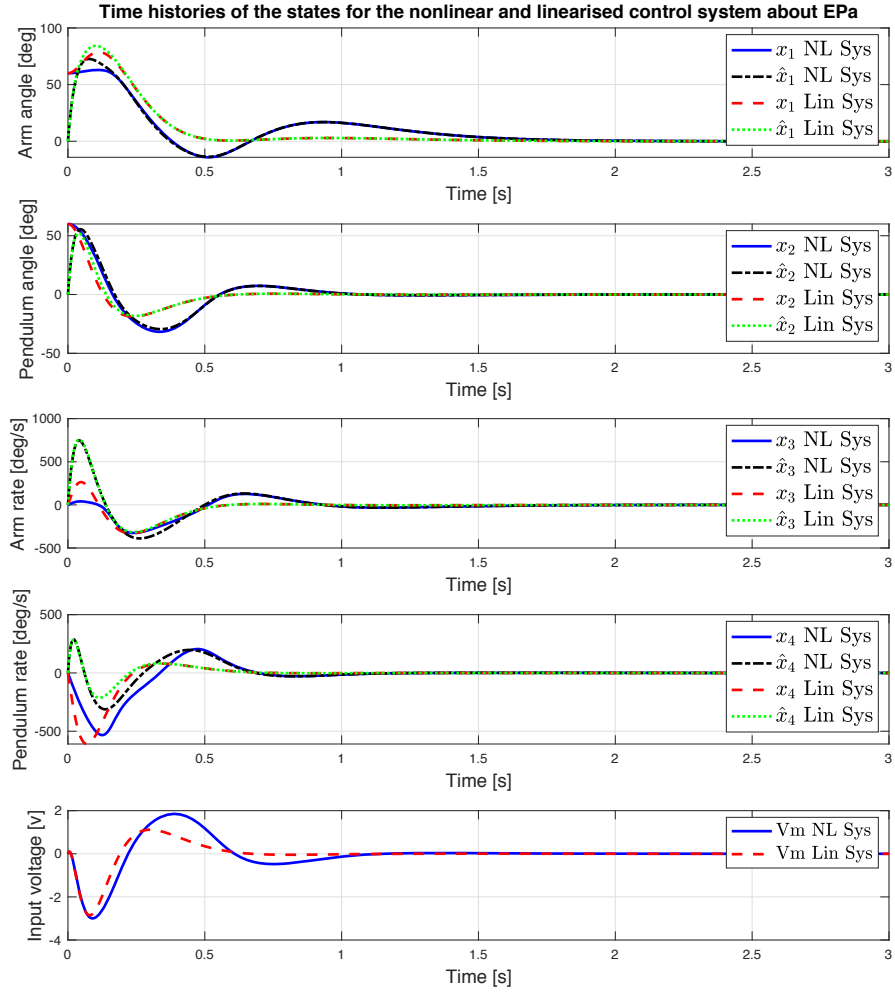

Figure 2: Time histories of the states, their estimations and input voltage.
7. Plots the time histories of the states for both the nonlinear and linearised control system against each other. Plot the states  $x_1(t)$  and its linear approximation  $x_{1a}(t) + \bar{x}_{1a}$  together with their estimations on top of each other in one graph, then plot  $x_2(t)$ ,  $x_{2a}(t) + \bar{x}_{2a}$  and their estimations together on another graph, and so on. Sample results for the initial conditions  $x_1(0) = 60$  deg,  $x_2(0) = 60$  deg,  $x_3(0) = 0$  deg/s and  $x_4(0) = 0$  deg/s are shown in Figure 2, where we selected the following eigenvalues:  $\{-5, -6, -7, -8\}$  for the control design, and  $\{-25, -26, -27, -28\}$  for the observer. Note that the initial condition of the observer is set to zero.